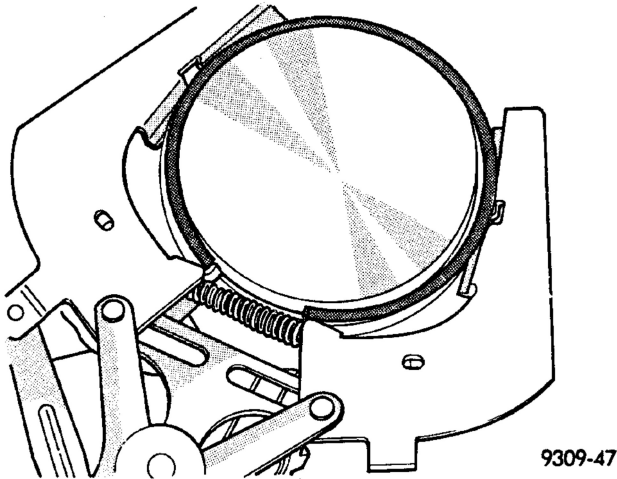

Fig. 16 UPPER AND INTERMEDIATE RINGS
- (10) Install No. 2 intermediate piston ring using a piston ring installer (Fig. 16).
- (11) Install No. 1 upper piston ring using a piston ring installer (Fig. 16).